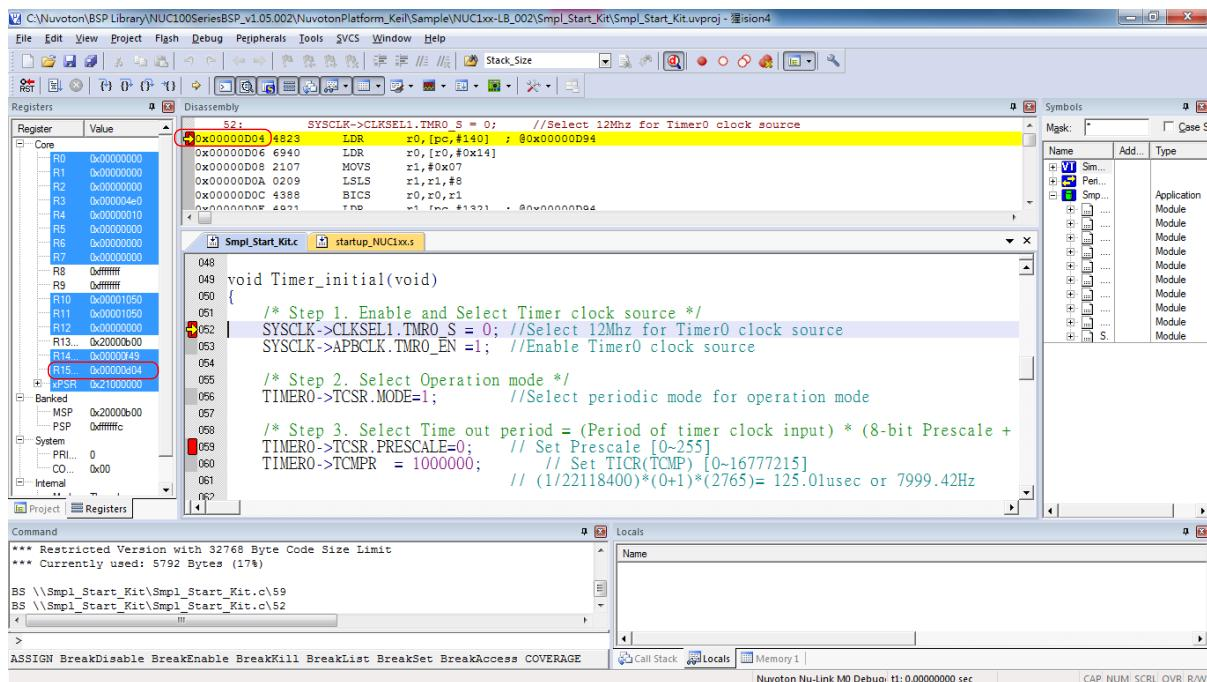

Figure 3-1 Setting Breakpoints in Keil MDK Debug Mode
In Debug mode, the user can add breakpoints in the code for debugging. During the real-time simulation of the Nu-Link Adapter, the chip simulation will be stopped at a specific breakpoint. Figure 3-1 shows the breakpoint settings in Keil MDK Debug mode. The red labels on lines 052 and 059 indicate the breakpoints inserted; the yellow arrow refers to the code to be executed next and shows the register value of Program Counter (PC) (i.e. “R15(PC)=0x00000D04” in the **Registers** pane in Figure 3-1).